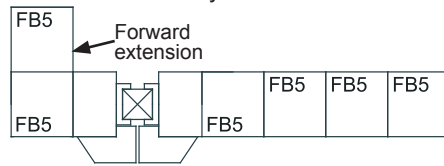

Fig. 3.15
- 7- If required, use the forward/back extension to store counterweight material or to install top outriggers and planking on the opposite end of the bridge assembly (fig. 3.15 and 3.16) and apply counterweight.
For more information on the load capacity of a forward/back extension bridge, refer to p. 44 of the *Load Capacities* section. For any configuration using forward or back extensions other than those shown in fig. 3.15 and 3.16, contact the distributor or the Hydro Mobile technical support team.